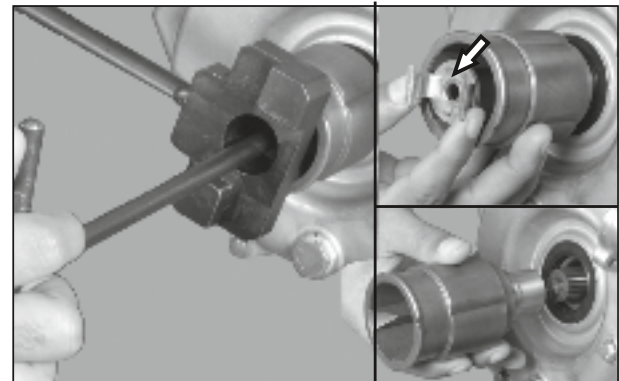

Fig. 3.70
- Hold the muff cup using special tool and loosen and remove the 1 no. hexagonal screw M8X20 along with lock plate complete from muff cup . (Fig. 3.70)
- Pull out the muff cup from the differential. (Fig. 3.70)